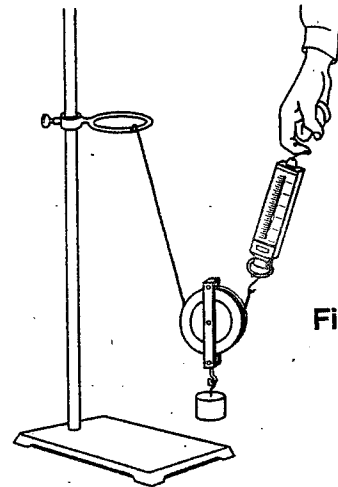
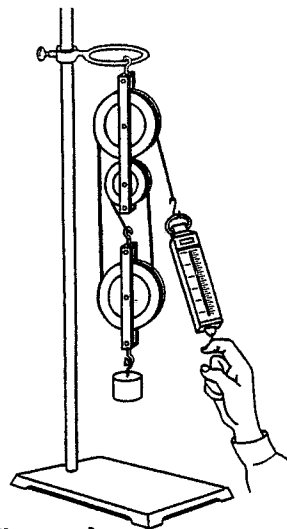

Figure 2
Figure 4
4. Set up a single movable pulley as shown in Figure 2. Lift the mass by pulling up on the spring scale. The reading on the scale shows the amount of force needed to lift the mass. Record this number in the Data Table.
6. Set up the pulley systems shown in figures 4 and 5. For each pulley system, measure the amount of force needed to lift the mass and record it in the Data Table.
b. Figure 2: _____ d. Figure 4: _____